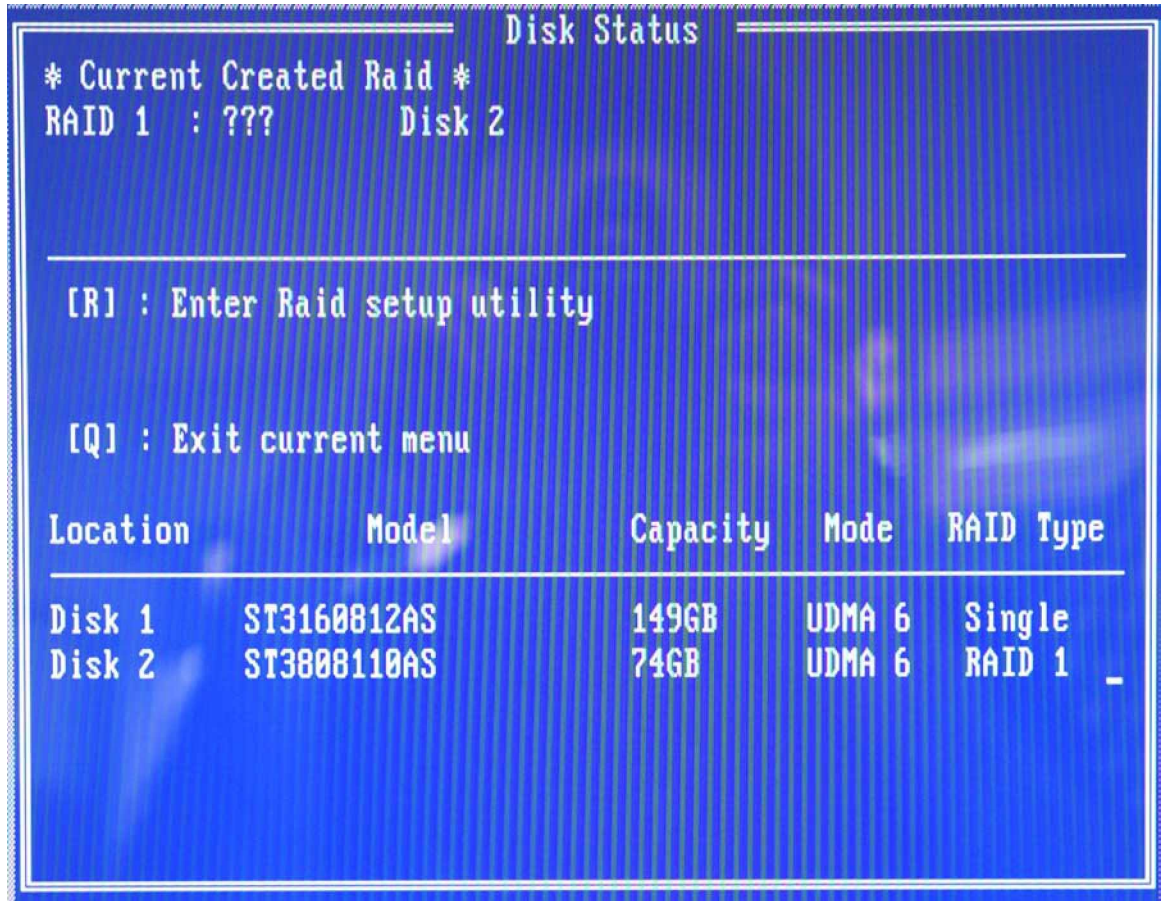

Figure E-4: BIOS RAID Utility
Step 2: The system prompts the user to press <CTRL> and <S> to enter the BIOS RAID Setup Utility (see **Figure E-4**).